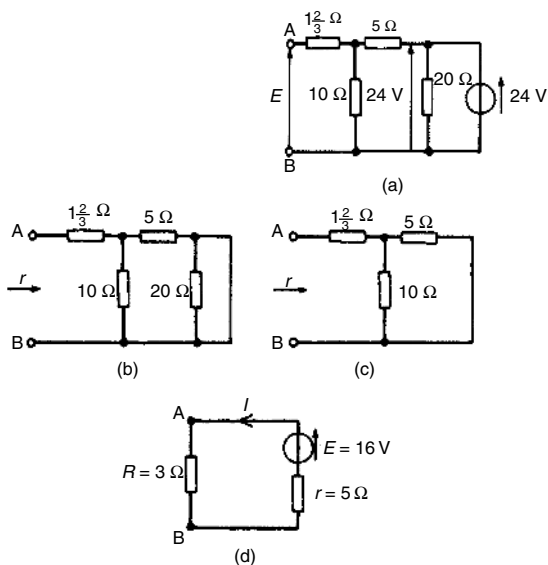

Figure 13.45
- (i) The 3 Ω resistance is removed from the circuit as shown in Fig. 13.45(a).
- (iii) Removing the source of e.m.f. and replacing it by its internal resistance means that the 20 Ω resistance is short-circuited as shown in Fig. 13.45(b) since its internal resistance is zero. The 20 Ω resistance may thus be removed as shown in Fig. 13.45(c) (see Section 13.4 (vi)).
From Fig. 13.45(c), resistance,
(iv) The equivalent Thévenin's circuit is shown in Fig. 13.45(d), from which, current,